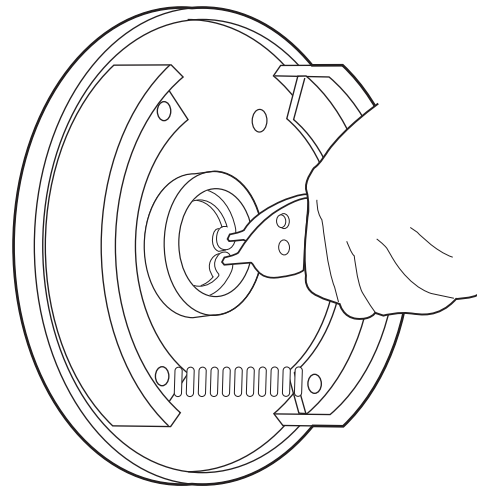

Figure 5 Removing/Installing Inner Snap Ring
1. Remove the inner snap ring (Ref. Figure 5).
4. Install the inner snap ring (Ref. Figure 5).